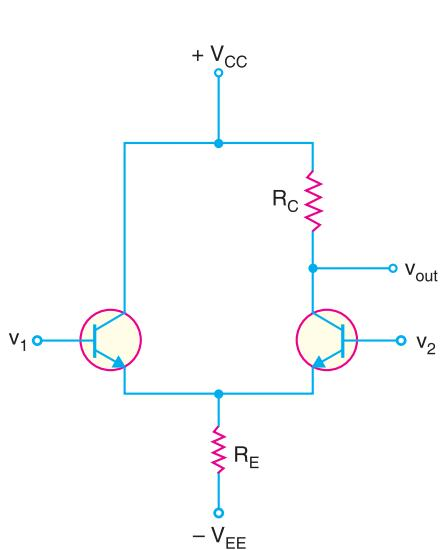
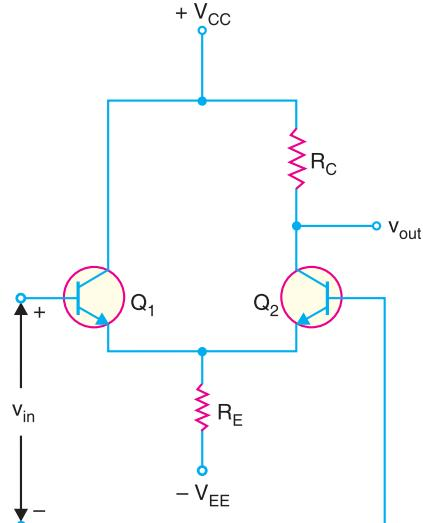
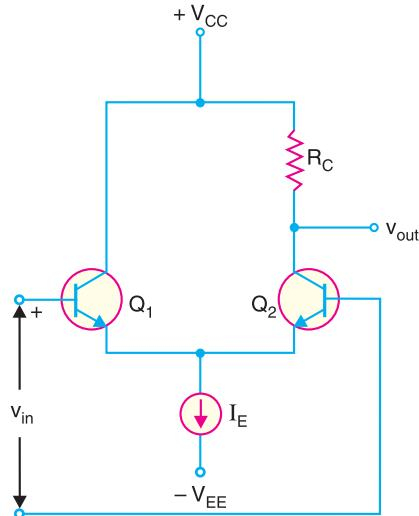
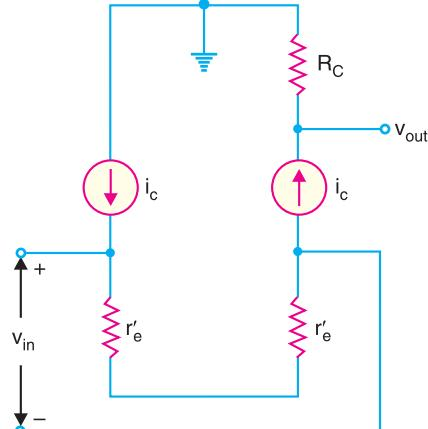

Fig. 25.27
Fig. 25.28
Fig. 25.29
Fig. 25.30
A differential amplifier (DA) has a noninverting input and an inverting input. Fig. 25.27 shows the differential amplifier (DA) that is used in IC OP-amps. Note the circuit has double-ended input and single-ended output.
If you look at the differential amplifier circuit in Fig. 25.27, it responds to the difference between the voltages at the two input terminals. In other words, DA responds to  $v_{in}$  ( $= v_1 - v_2$ ). Therefore, the circuit shown in Fig. 25.27 can be drawn as shown in Fig. 25.28.
Ideally (i.e.,  $V_{BE}$  is negligible), the tail current  $I_E$  in Fig. 25.27 is  $I_E = V_{EE}/R_E$ . Once the values of  $V_{EE}$  and  $R_E$  are set, the tail current is constant. Therefore, to simplify a.c. analysis, we can replace the tail current by a current source ( $I_E$ ) as shown in Fig. 25.29. This will simplify the a.c. analysis of the circuit with almost no loss of accuracy.
**A.C. Equivalent Circuit.** We can easily find the a.c. equivalent circuit of differential amplifier by applying the usual rules to Fig. 25.29. The rules are to short all the capacitors, and reduce all d.c. sources to zero. Since a differential amplifier has no capacitors, all that we have to do is to reduce the d.c. sources to zero. Reducing a voltage source to zero is equivalent to replacing it by a short. Reducing a current source to zero is equivalent to opening it. In Fig. 25.29, this means ground the  $V_{CC}$  point, ground the  $V_{EE}$  point and open the current source. Applying these conditions to Fig. 25.29, we get the a.c. equivalent circuit of differential amplifier shown in Fig. 25.30.
**Voltage gain.** Fig. 25.30 shows the a.c. equivalent circuit of a differential amplifier. This is how a differential amplifier looks to an a.c. signal. Note that  $r'_e$  ( $= 25 \text{ mV/d.c. emitter current}$ ) is the a.c. emitter resistance. Since the two  $r'_e$ s are in series, the same a.c. emitter current exists in both transistors. The a.c. emitter current is given by;